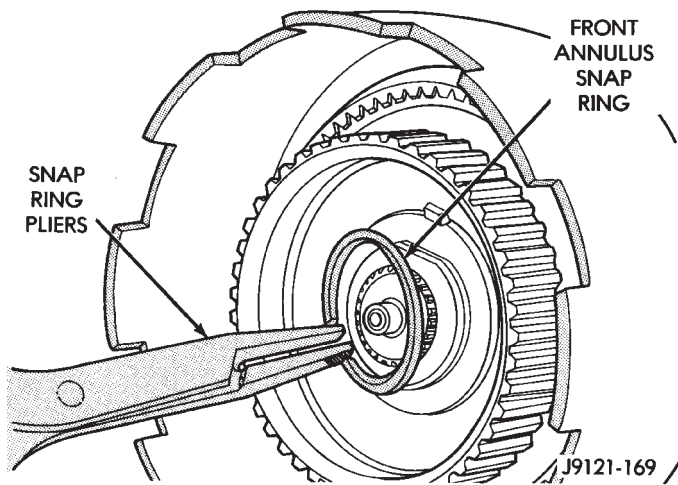

Fig. 165 Installing Front Annulus Snap Ring
(20) Install front annulus snap ring (Fig. 165). Use snap ring pliers to avoid distorting ring during installation. Also be sure ring is fully seated.